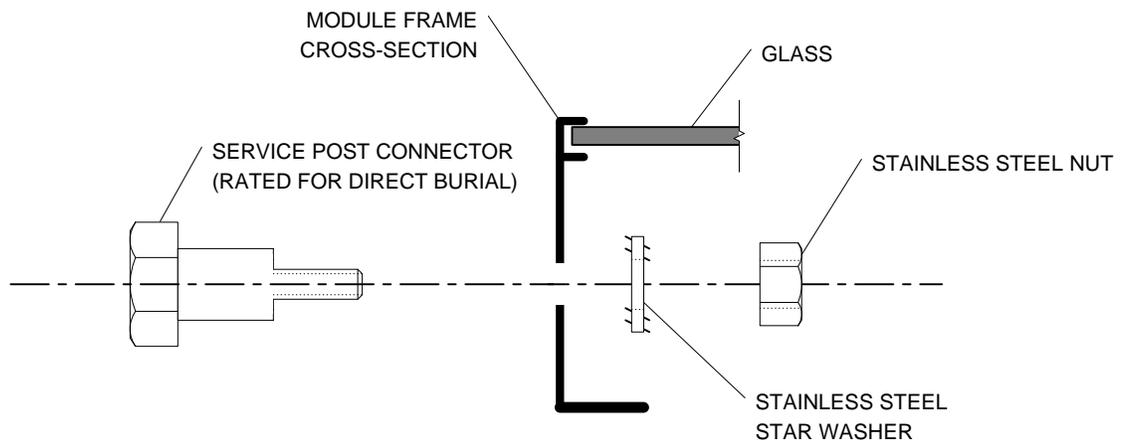

Figure 3 - Connecting a Service Post Connector
a. You may drill a hole through the side frame to accommodate a stainless steel (SS) self-tapping screw. Such a screw must have a thread pitch of at least 32 turns-per-inch (TPI). You may not use the 10-24 screw supplied with the module in this case because the thread pitch, 24 TPI, which is suitable for the provided ground holes on the bottom flange, will not provide adequate thread contact with the side of the frame, which is thinner.
b. You may drill a hole through the side frame to accommodate a Service Post Connector such as the one shown in the illustration. Be sure to use a Service Post Connector that is rated for direct burial. Many such connectors are rated for indoor use only. You will also need SS hardware – a star washer and nut – to complete the assembly. See Figure 3 for an illustration of this assembly.